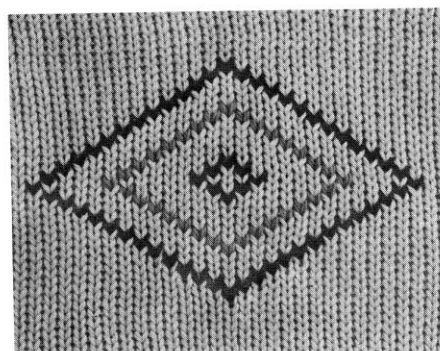

Fig.105
- d) Knit the diamond pattern as shown in Fig.105 – each time moving the embroidery thread one needle out and adding the second diamond, then center diamond as shown (use separate strand of embroidery thread each time you start a new diamond shape).